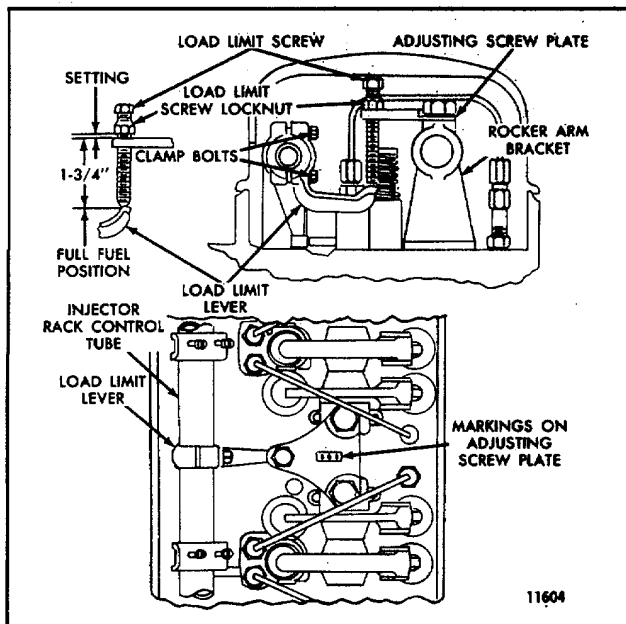

Fig. 1. - Engine Load Limit Device
Engines with mechanical governors may be equipped with a load limit device to reduce the maximum horsepower (Fig. 1).
After the engine tune-up is completed, make sure the load limit devices are properly installed (Fig. 1). Make sure the counterbores in the adjusting screw plates are up. The rocker arm shaft bracket bolts which fasten the adjusting screw plate to the brackets are tightened to 75-85 lb-ft (105-115 Nm) torque (all other rocker arm shaft bracket bolts are tightened to 90-100 lb-ft (122136 Nm) torque). Then, adjust the load limit device, on each cylinder head, as follows:
3. With the screw out of the plate, adjust the load limit screw locknut so the bottom of the locknut is 1 3/4" from the bottom of the load limit screw for the initial setting (Fig. 1).